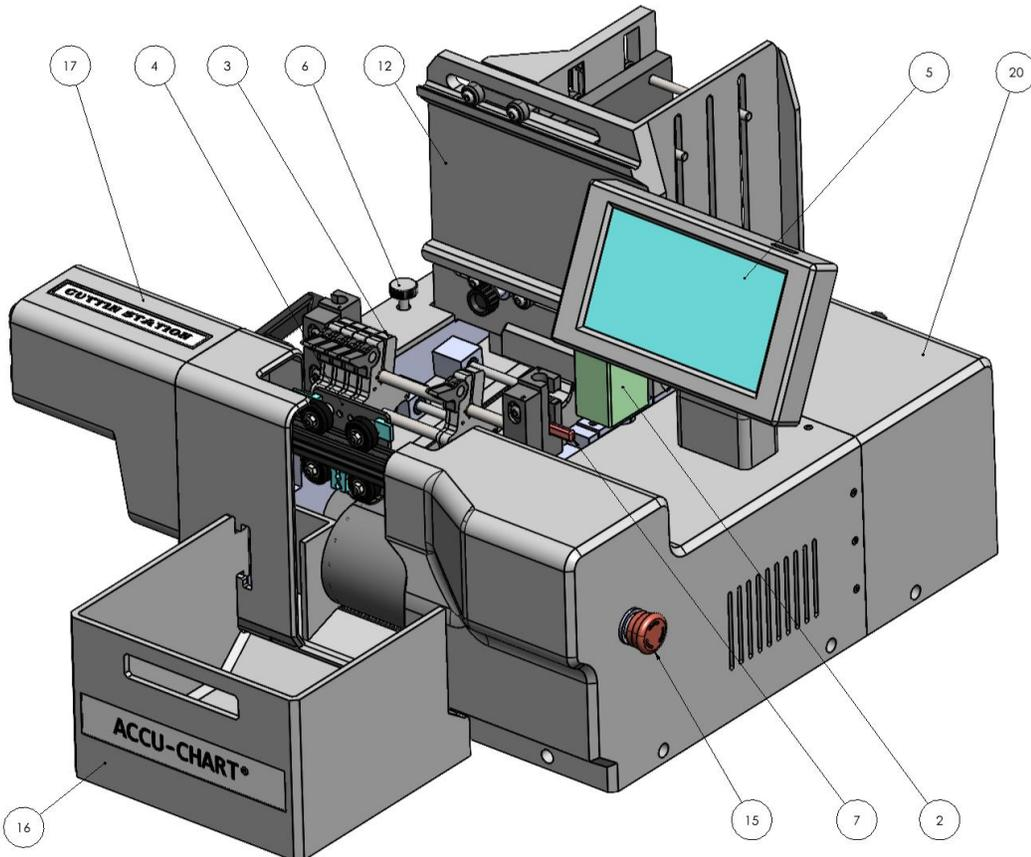

Fig.2
- Attach collector bin as depicted on the diagram. See Fig.2